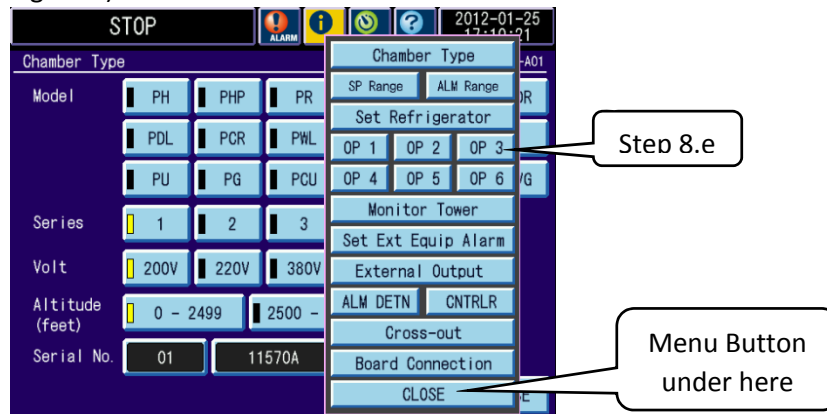

Figure 5: Menu Screen
- e. Press the “Menu” button on the bottom right of the screen, then select “OP 3” (see Figure 5).